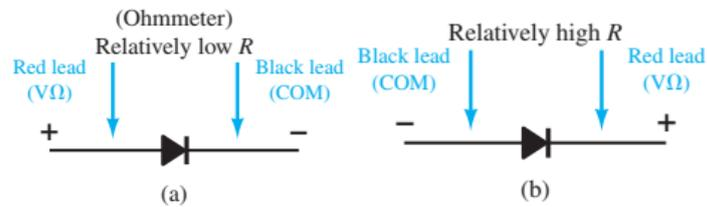

Figure 3 Checking a diode with an ohmmeter.
we found that the forward-bias resistance of a semiconductor diode is quite low compared to the reverse-bias level. Therefore, if we measure the resistance of a diode using the connections indicated in Fig. 3, we can expect a relatively low level. The resulting ohmmeter indication will be a function of the current established through the diode by the internal battery (often 1.5 V) of the ohmmeter circuit. The higher the current, the lower is the resistance level. For the reverse-bias situation the reading should be quite high, requiring a high resistance scale on the meter, as indicated in Fig. 13b. A high resistance reading in both directions indicates an open (defective-device) condition, whereas a very low resistance reading in both directions will probably indicate a shorted device.
5. Measure forward bias resistance and reverse bias resistance using ohmmeter. [Ref: Fig 3]